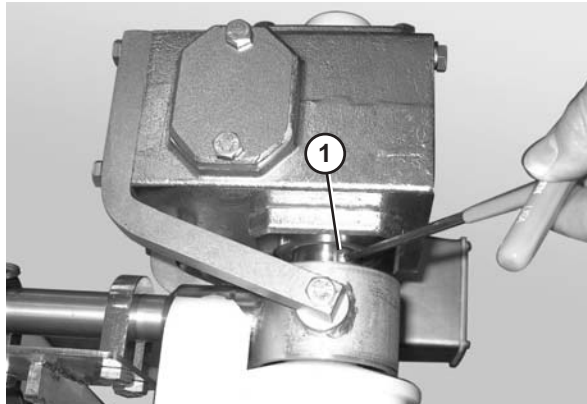

Figure 50
- Loosen the button head screws (**Figure 50, item 1**) that connect the gearmotor to the drive spindle.